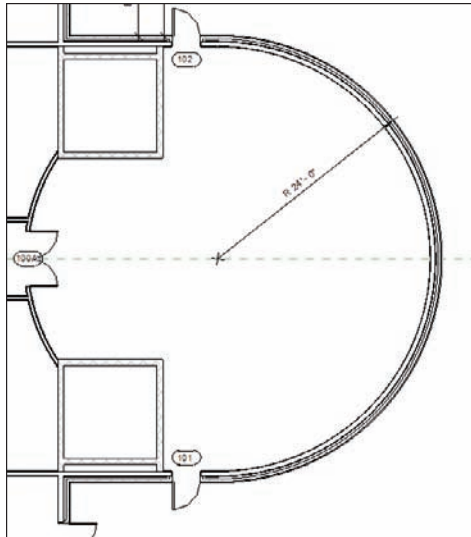

FIGURE 5.46 The radial entry
2. Zoom in on the east wing's radial entry area where the elevator shafts are, as shown in Figure 5.46.